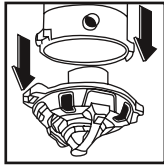

Fig. 3
3. Release the pins and remove the container power head (Fig. 3)